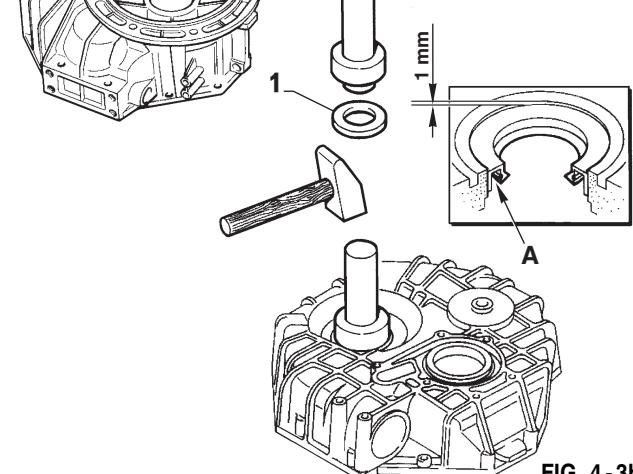

FIG. 4-3b
Apply thin coat of Loctite 574 on periphery of new radial shaft seal rings (item 1, Fig. 4-3a and Fig. 4-3b) and grease lips with STABURAGS NBU 30.